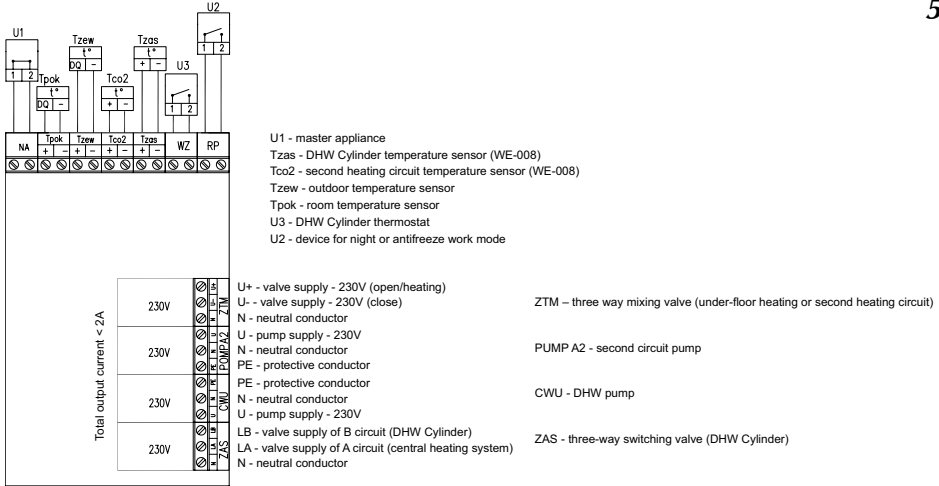

Fig.5 Connecting external appliances to the ZIO board
- close the NA entry on ZIO board (see fig.5),
A number of other appliances or necessary sensors (fig. 5) can be connected to the boiler according to the individual requirements. The temperature sensors should be connected using a LIYY 2x0,14 or similar type of wire. Pay special attention to the sensors ending, incorrect wiring may result in short circuit. The connecting wire lengths must be limited. A long wire may cause interference and faulty sensor operation. The wires must not be run in the same conduit with (or too close to) electrical wiring, and must not be wrapped around any other wires or cables. The sensor location is essential for its proper functioning. Outdoor temperature sensor should be installed in the coolest place in the building (north building side), relatively far away from the heat source (e.g. windows that can be opened, ventilation ducts, chimneys and other heated surfaces). Do not install the outdoor sensor in the place exposed to direct sunshine. Indoor temperature sensor must be located inside the building, in the most commonly used room, relatively far away from windows, radiators, doors and other places that may have affect on correct temperature measuring. The indoor temperature sensor is optional accessory. For more information about sensor see page 19 - „Room temperature sensor“.
A number of other appliances or necessary sensors (fig. 5) can be connected to the boiler according to the individual requirements. The temperature sensors should be connected using a LIYY 2x0,14 or similar type of wire. Pay special attention to the sensors ending, incorrect wiring may result in short circuit. The connecting wire lengths must be limited. A long wire may cause interference and faulty sensor operation. The wires must not be run in the same conduit with (or too close to) electrical wiring, and must not be wrapped around any other wires or cables. The sensor location is essential for its proper functioning. Outdoor temperature sensor should be installed in the coolest place in the building (north building side), relatively far away from heat source (e.g. windows that can be opened, ventilation ducts, chimneys and other heated surfaces). Do not install the outdoor sensor in the place exposed to direct sunshine. Indoor temperature sensor must be located inside the building, in the most commonly used room, relatively far away from windows, radiators, doors and other places that may have affect on correct temperature measuring. The indoor temperature sensor is optional accessory. For more information about sensor see page 19 - „Room temperature sensor“.
Master appliance – you can limit the boiler electricity consumption by connecting the master appliance (e.g. instantaneous water heater) – see fig.5. The master appliance must be equipped with the relay output. The output should be connected to the NA entry in the ZIO board by using LIYY 2 x 0,14 or similar type of wire.
- cylinder temperature sensor (WE-008 offer by Kospel S.A.- optional equipment) Set the „Extended Menu” for option a or b. For thermostat contacts and cylinder sensor connection details see fig.5.
The boiler is able to control DHW pump. The pump operation can be set to meet the individual needs (24hours program). The pump should be connected to ZIO board as shown in fig.5 (page 8). The pump is supplied with 230V.
You can connect number of boilers to increase power. The maximum number of slave unit (ECKO.T) in cascade is 8. The slave unit must be equipped with a special controller to enable cascade connection. For hydraulic connection details see fig.5.